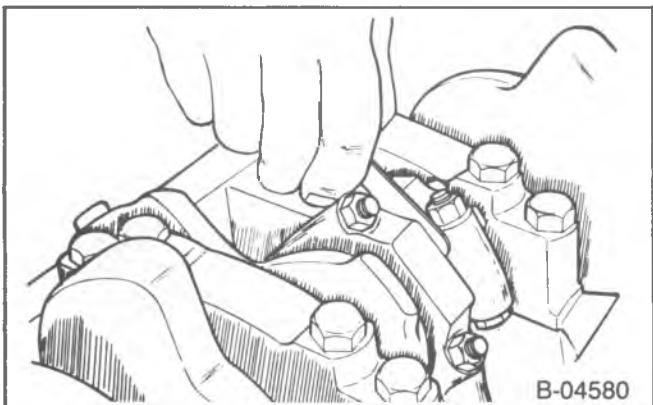

Figure 36—Measuring Connecting Rod Side Clearance
- Connecting rod side clearance (figure 36). The proper clearance is 0.16 to 0.44 mm.